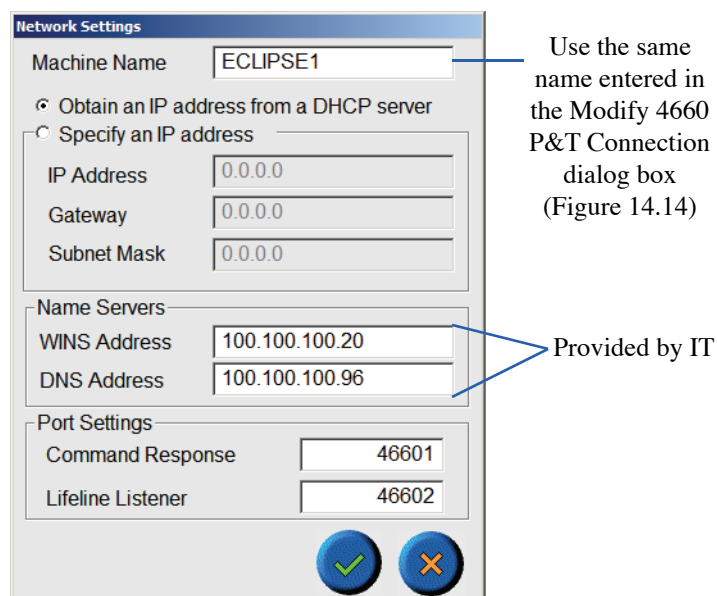

Figure 14.15. Network Settings dialog box for dynamic IP addresses
3. From the System screen, press **Network Settings**. The Network Settings dialog box appears (Figure 14.15).